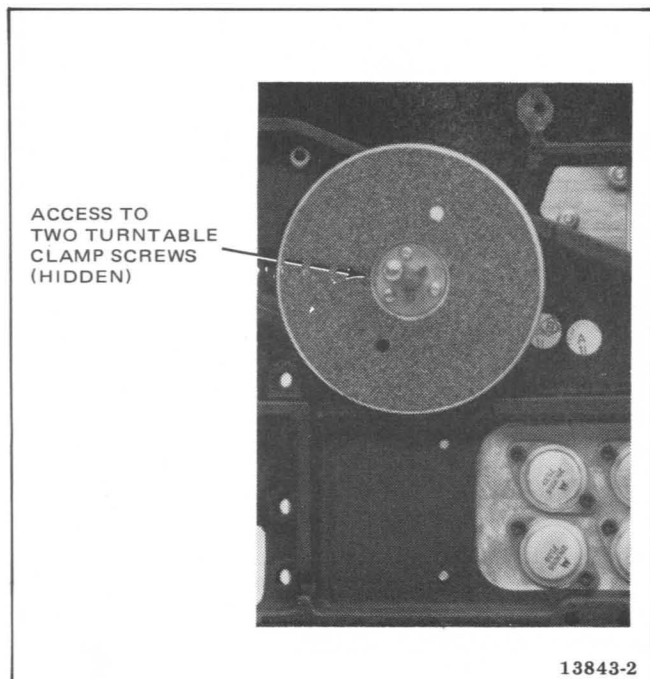

Figure 2-17. Supply Turntable
2. Loosen the two hex-head screws (Figure 2-17) that clamp the turntable to the motor shaft, and remove turntable from shaft.